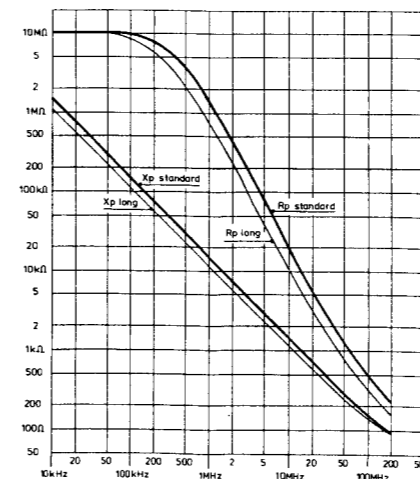

Fig. 3.26. Input resistance ( $R_p$ ) and reactance ( $X_p$ ) versus frequency.
a.c.	See curve Fig. 3.26.
Input reactance h.f.	See curve Fig. 3.26.